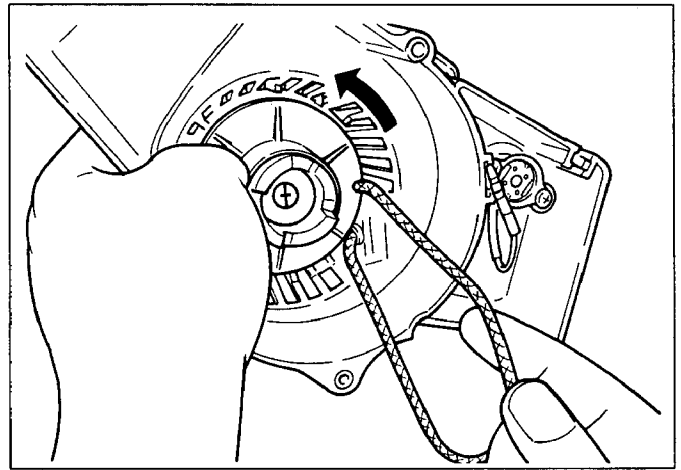

Fig. 27
(5) Hold starter rope as shown Fig. 27 and turn reel 3 times in arrowhead direction.
(6) Firmly press the reel not to allow reverse turn.